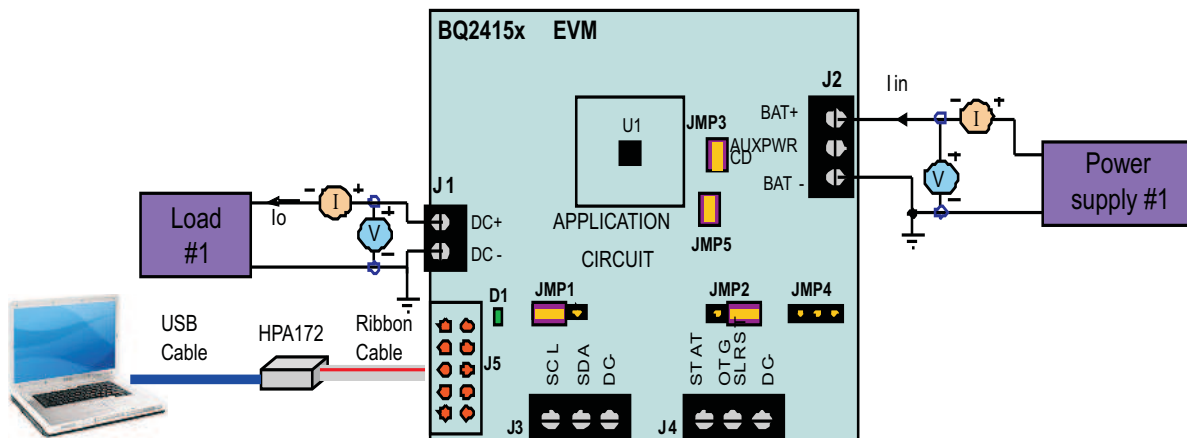

Figure 4. Test setup for HPA256
2. Set the Load #1 current to 200mA ± 20mA but disable the output. Connect the output of the Load #1 in series with a current meter (multimeter) to J1 (DC+, DC-). Make sure a voltage meter is connected across J1 (DC+, DC-). The setup is now like Figure 4 for HPA256.